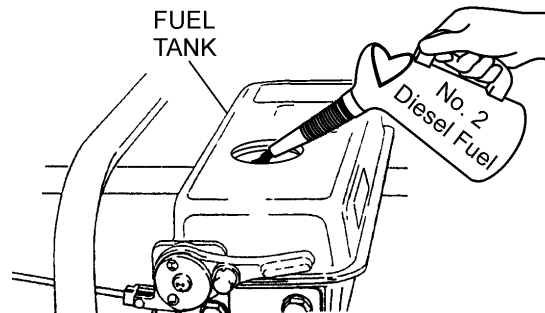
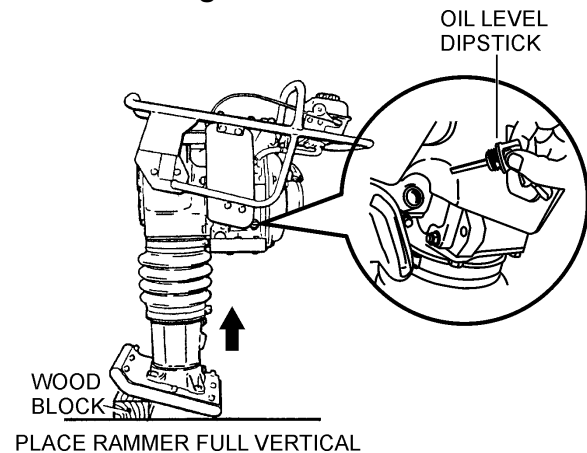

Figure 4. Fuel Tank
Figure 5. Engine Oil Dipstick
1. Fill the fuel tank (Figure 4) with No. 2 diesel fuel. At the same time, check the engine oil and make it a habit to replenish it often (Figure 5).